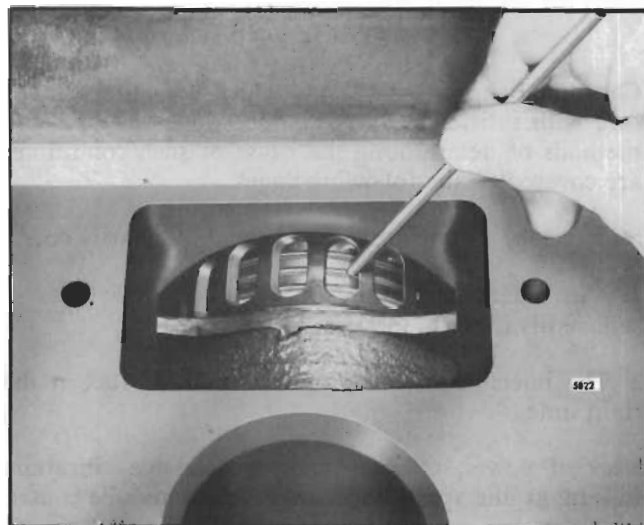

Fig. 2 - Inspecting Piston Rings
A. Piston rings may be stuck or broken. To determine the condition of the rings, remove the air box cover and inspect them by pressing on the rings with a blunt tool (Fig. 2). A broken or stuck ring will not have a "spring-like" action.